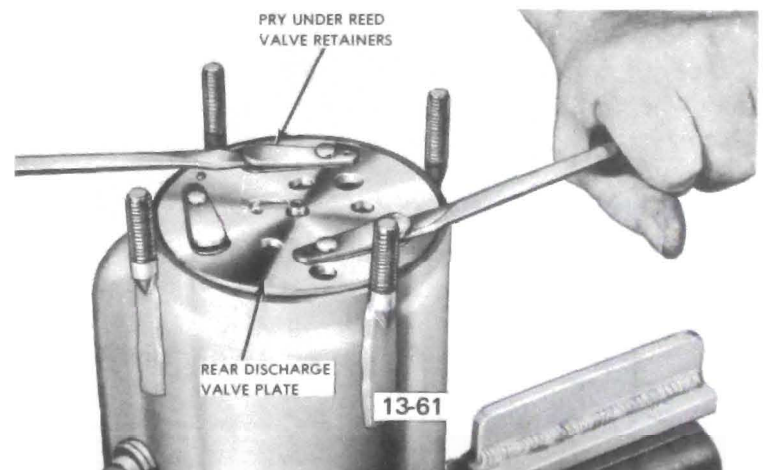

Figure 13-44 Removing Rear Discharge Valve Plate
9. Carefully pry out rear discharge valve plate and rear suction valve reed disc with screwdrivers (see Figure 13-44 and 13-45). Check both pieces and replace as necessary.